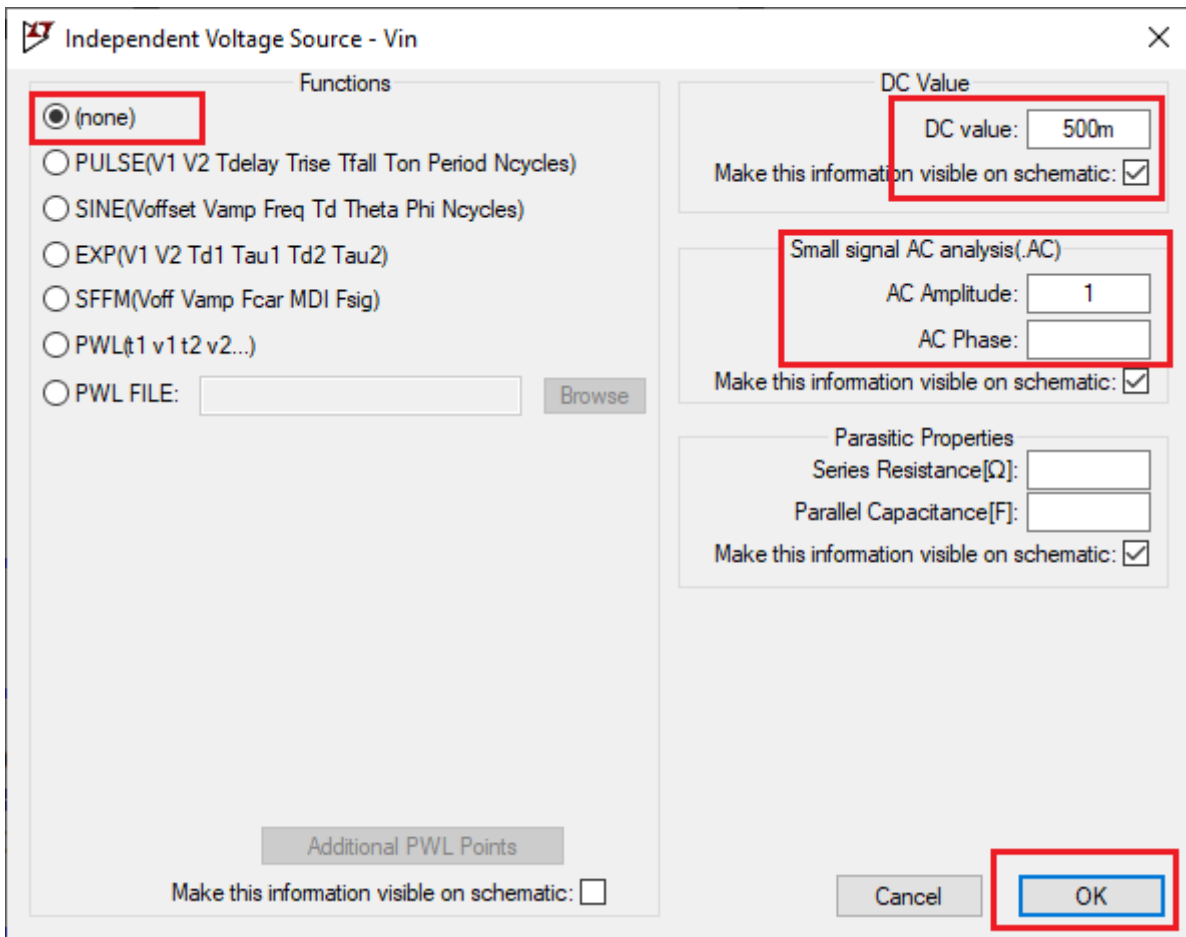

Fig. 5. Adjusting input voltage source for the AC analysis
8. We can also plot the frequency response of the op-amp, close the waveform, then change the parameters of the input voltage source (V_{in}) as in Fig. 5.